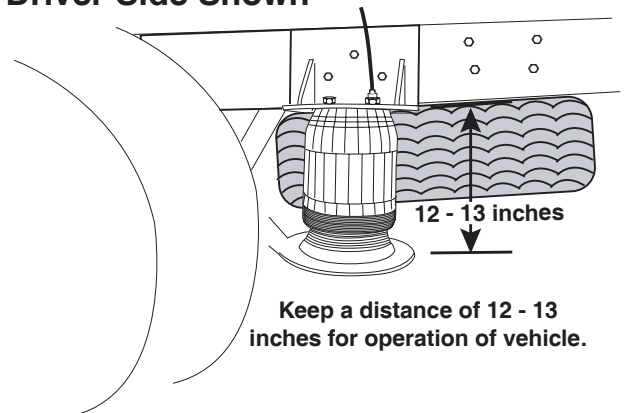

Figure 20
3. An Air Lift SmartAir system must be installed with this kit. Follow the instructions in the SmartAir manual to install the system. Once the SmartAir system is installed it will automatically maintain the rolling lobe air springs' installed height of 12 - 13 inches within their mounts (Figure 20).